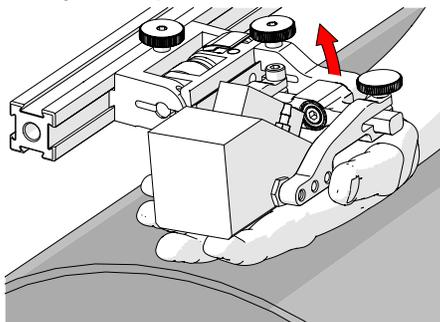

Fig. 106 - Lift to latched position
1. Ensure the probe holder is in the latched, upper position (Fig. 106). If the probe holder is already latched, it will only move within the slip joint adjustment range and have no spring tension.
1. Ensure the probe holder is in the upright latched position (Fig. 106).